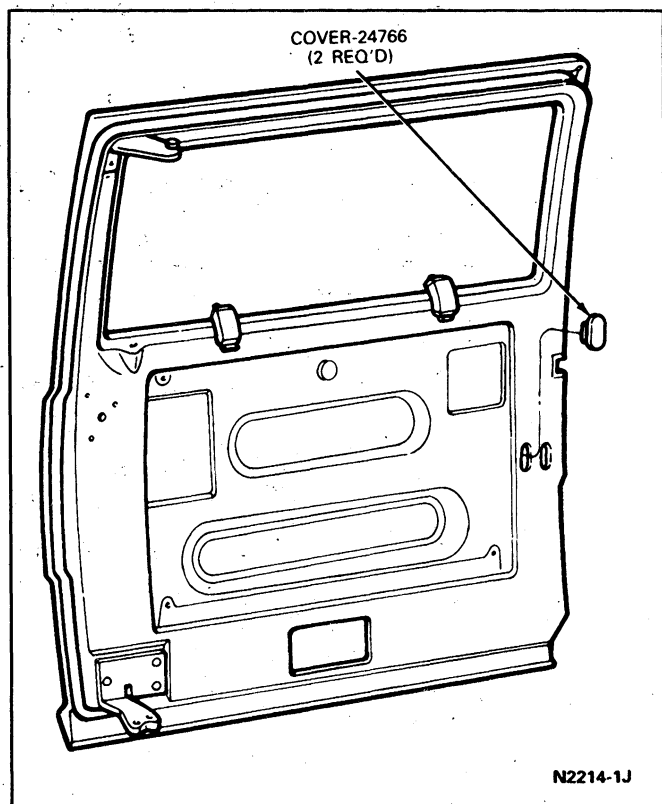

FIG. 6 Sliding Door—Access Hole Covers—E-150—E-350
3. Remove the door trim panel and/or access hole covers, if so equipped (Fig. 6). Refer to Section 45-03, Door Trim Panels.